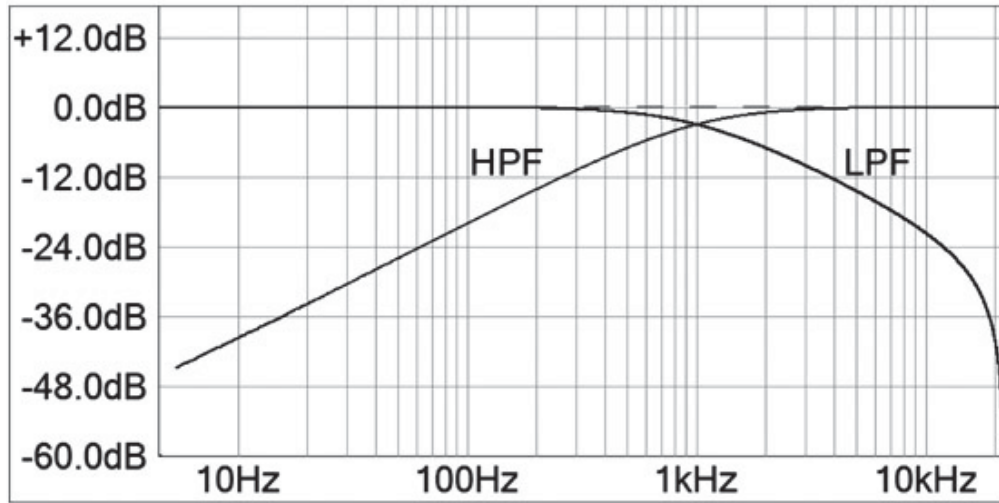

Figure 7.1: The first order VA LPF and HPF frequency response.
In Chapter 4 we studied Zavalishin's Virtual Analog (VA) Filters. We looked at the trapezoidal integrator and learned that it can preserve the topology of the original analog block diagram. We also saw that the filter equations for the first order sections were simple and linear. For our synthesizer filters, we can make use of these virtual analog designs. In some cases there may be more coefficients to calculate, but the calculations may be mathematically simpler than other designs. Additionally, the filter parameters are less coupled to each other, which can also reduce overall processing loads. VA filters will allow us to implement all of the filters we need using easy to calculate equations and fewer memory or z^{-1} locations than the BZT-to-biquad versions. It should be noted, however, that these filters are also considered bilinear designs because they are based on the trapezoidal (or bilinear) integrator, and so the frequency responses are going to be essentially identical to the BZT-to-biquad versions, including the error at very high frequencies in the LPF and BPF cases. We will synthesize filters using the three VA building blocks: first order LPF and HPF and second order State Variable Filter (SVF). We will implement these in two C++ objects, one for the first order pair and the other for the SVF. Figure 7.1 shows the frequency response for the first order LPF and HPF. The LPF has a noticeable plummet to zero at Nyquist—this is due to the bilinear transform which relocates analog zeros at infinity